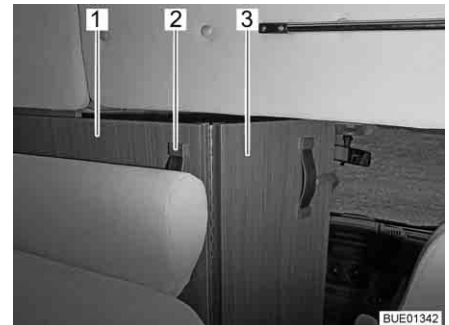

Fig. 57 Driver's cabin partition
- Grip the handle (Fig. 57,2) of the driver's cabin partition (Fig. 57,1) and pull it inwards until the edge of the driver's cabin partition is roughly level with the backrest of the bench seat (Fig. 57).
- Fold out the folding part of the driver's cabin partition (Fig. 57,3) between the seats of the driver's cabin.